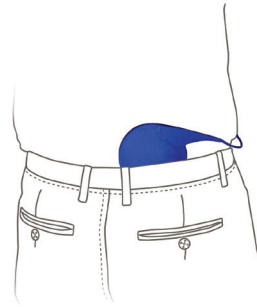

Figure 2
- Figure 2 shows an Implant just below the beltline. Your Implant may be in a different location, such as on your front side, in the abdomen (not shown).